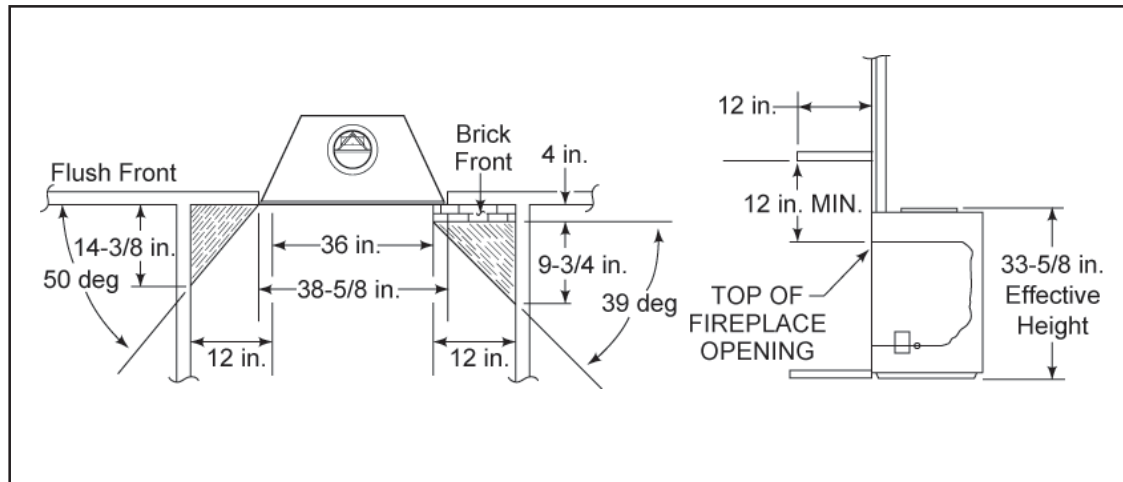

Figure 6 - Sidewalls and Surrounds
Adjacent combustible side walls must be located a minimum of 12 in. from the fireplace opening. See Figure 6. If you are using a decorative surround constructed of combustible material, it must be located within the shaded area defined in Figure 6. Short stub walls are also acceptable if they are contained within the shaded area.
- 6) The effective height of the fireplace assembly is measured from the base of fireplace to top of starter collar. See Figure 6.